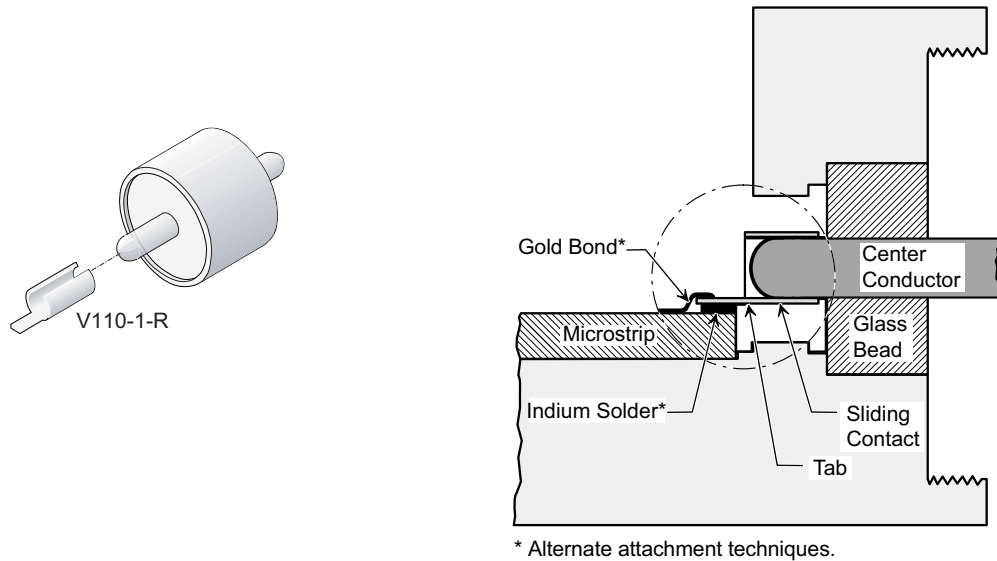

Figure 7-1. V110-1-R Sliding Contact Assembly
The sliding contacts slip over the pin of the glass bead and mate with the microcircuit as shown in Figure 7-1 (following page). The following is the recommended procedure for installing the sliding contacts and mating them with the microcircuit.
5. Position the sleeve as shown in Figure 7-1.